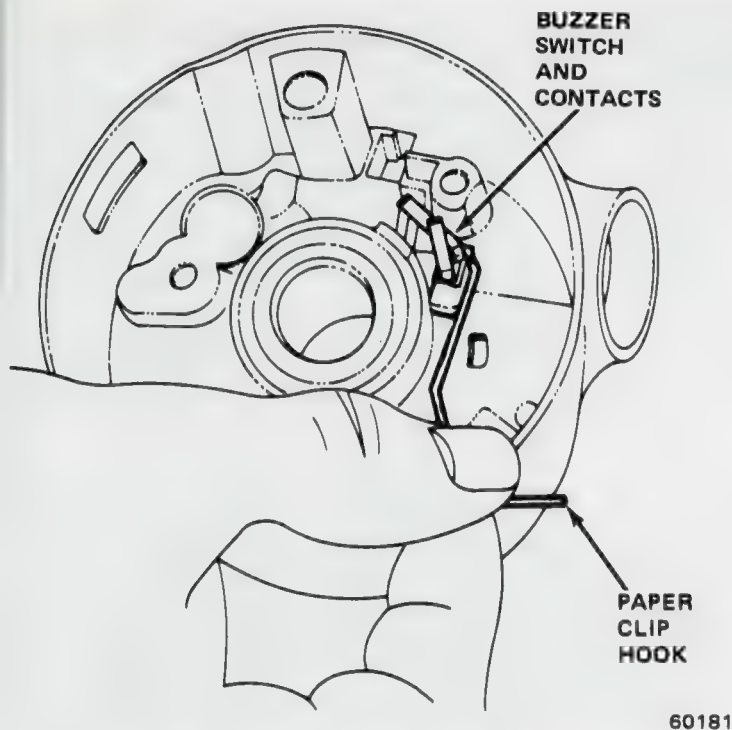

Fig. 2H-8 Turn Signal Switch Harness Removal
- (20) Remove plastic harness connector from bottom of column.
- (21) Wrap tape around column harness connector to prevent snagging and remove harness (fig. 2H-8).
- (22) Insert ignition key in lock cylinder, turn key to ON position, and remove key warning buzzer contacts. Use paper clip with right angle bend or needlenose pliers to remove switch and contacts (fig. 2H-9).